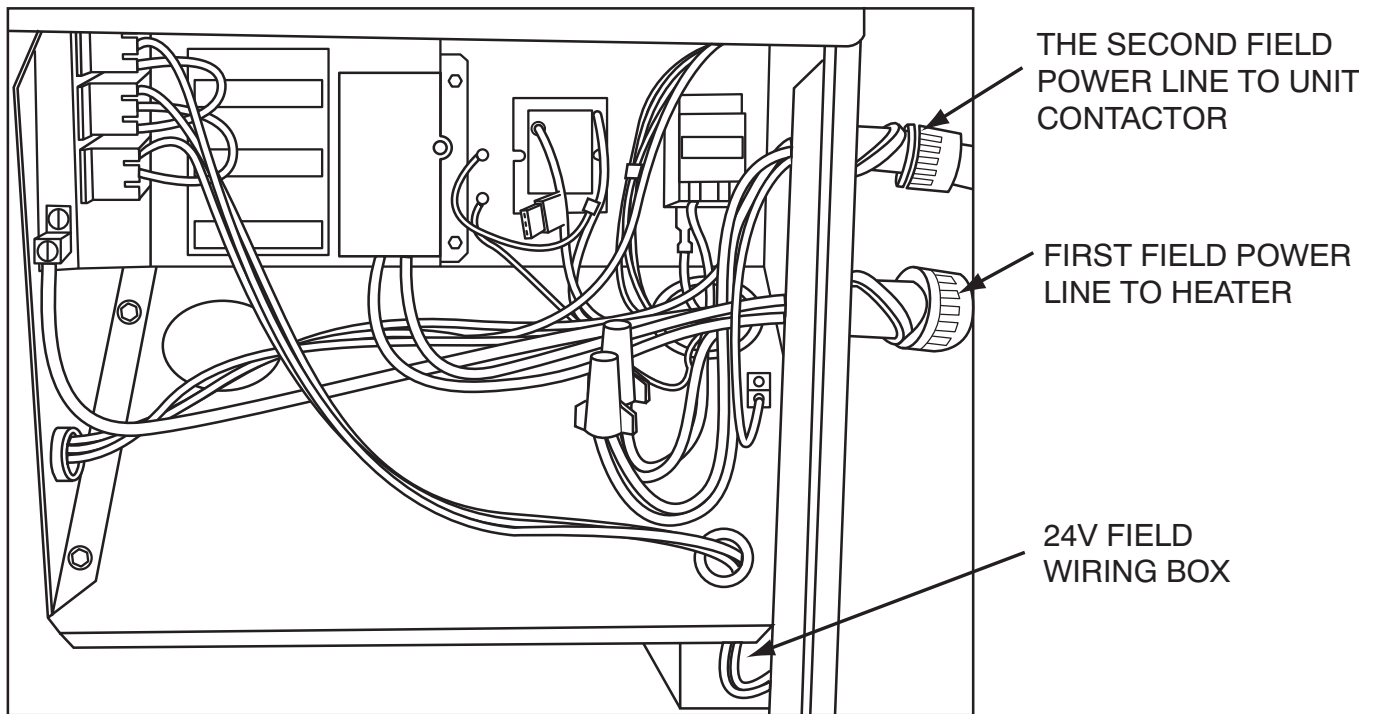
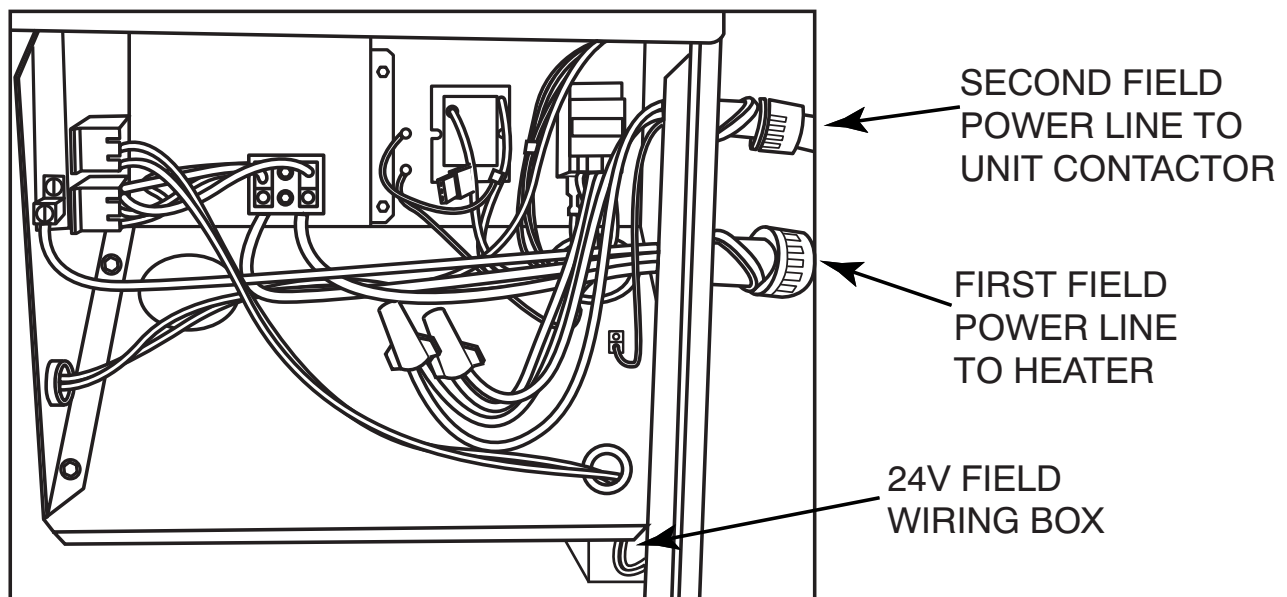

Fig. 5 - Dual Point Connections for Fused Heater
Fig. 6 - Dual Point Connection for Non-Fused Heater
2. Connect low voltage wires as shown in unit schematic diagrams found on base unit installation instructions. These connections must be made in the 24v barrier section inside the unit panel (see Fig. 5 or Fig. 6).
3. Insert first field power line through the Electrical Panel bottom hole (see Fig. 5 or Fig. 6) and connect to electric heater as shown in their respective wiring diagram found on the heater accessory kit. Electrical heaters with factory installed circuit breakers must have their field lines connected to the breaker block lugs and electric heater without factory installed circuit breakers must have their field lines connected to the heater leads using wire nuts. Ground electrical equipment in the appropriate locations.
4. Insert second field power line through the Electrical Panel top hole (see Fig. 5 or Fig. 6) and connect to unit contactor black and yellow leads using wire nuts. Ground electrical equipment in the appropriate locations.